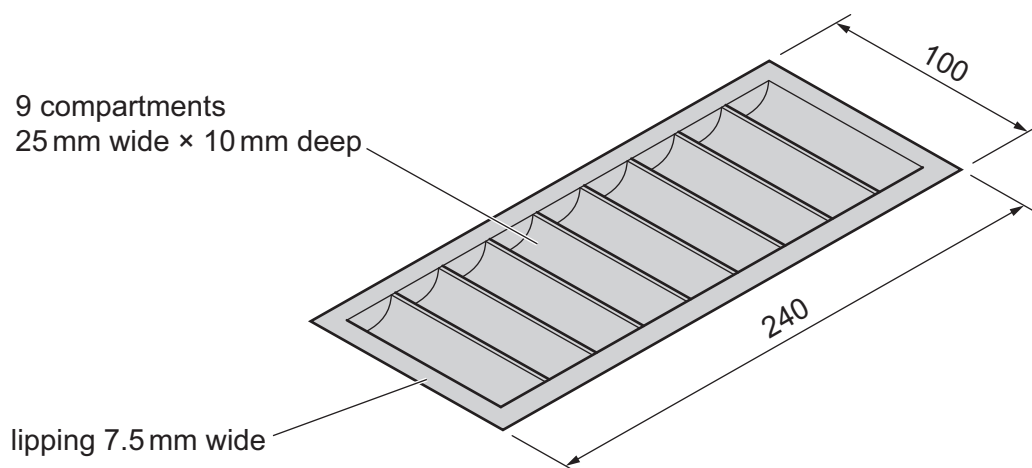

Fig. 13.3
- (c) Fig. 13.3 shows details of the lift-out tray. The tray is made of a thermoplastic and produced by vacuum forming.